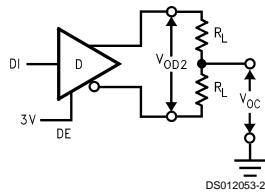

FIGURE 1. Driver  $V_{OD2}$  and  $V_{OC}$
| $V_{OD2}$                                  | Differential Output Voltage (Termination Load)  | $R_L = 50\Omega$   | (422) Figure 1         | 2.0             | 2.8    |      | V          |    |
| $V_{OC}$                                   | Driver Common Mode Output Voltage               | $R_L = 27\Omega$   | (485) Figure 1         | 0               |        | 3.0  | V          |    |